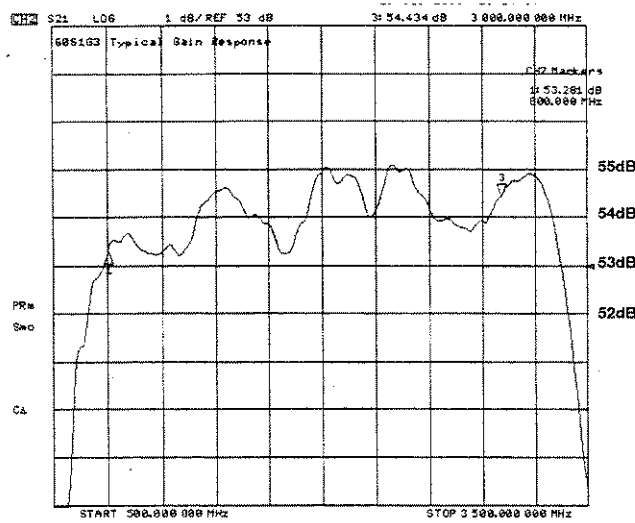

Figure 4.3.7.1
4.3.7.1 The Model 60S1G3's typical Gain Response is shown in Figure 4.3.7.1. The actual gain may vary considerably from that shown in Figure 4.3.7.1, but it should be ≥ 48 dB.